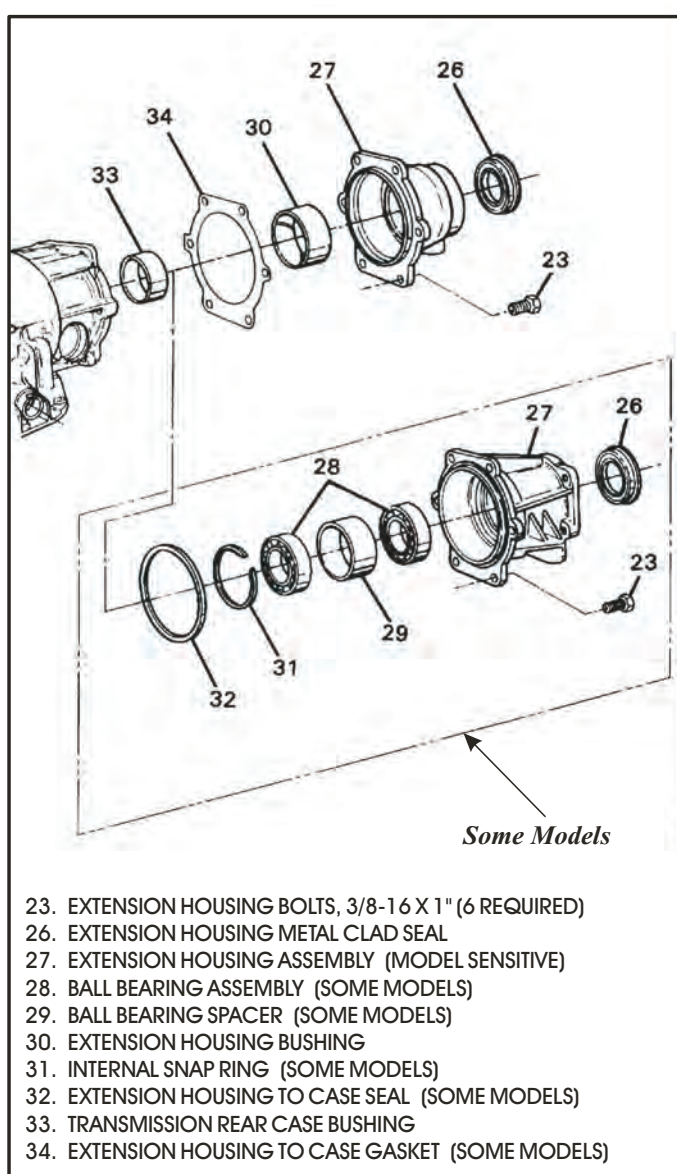

Figure 130
77. Install the proper extension housing and gasket as shown in Figure 130.